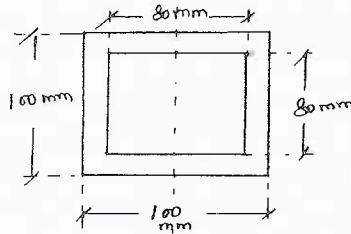

Fig.Q5(a) (06 Marks)
- 5 a. For the section shown in Fig.Q5(a), find the (i) Position of the neutral axis, (ii) Section modulus. (06 Marks)
- b. A steel beam of hollow section of outer side 100 mm and inner side 80 mm is used on a span of 4 m. Find the uniformly distributed load the beam can carry if the bending stress is not to exceed 120 N/mm^2 . The beam is taken as simply supported. [Refer Fig.Q5(a)] (06 Marks)